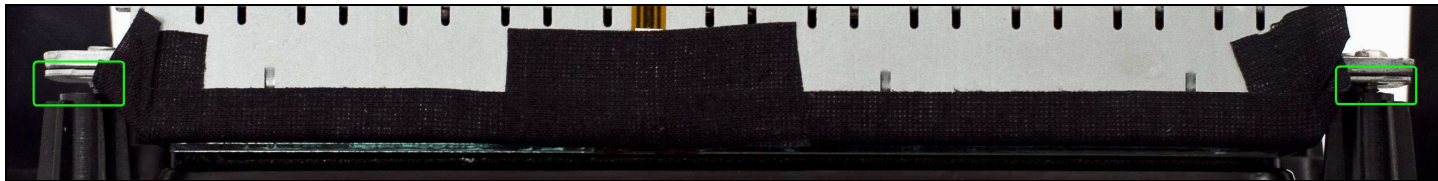
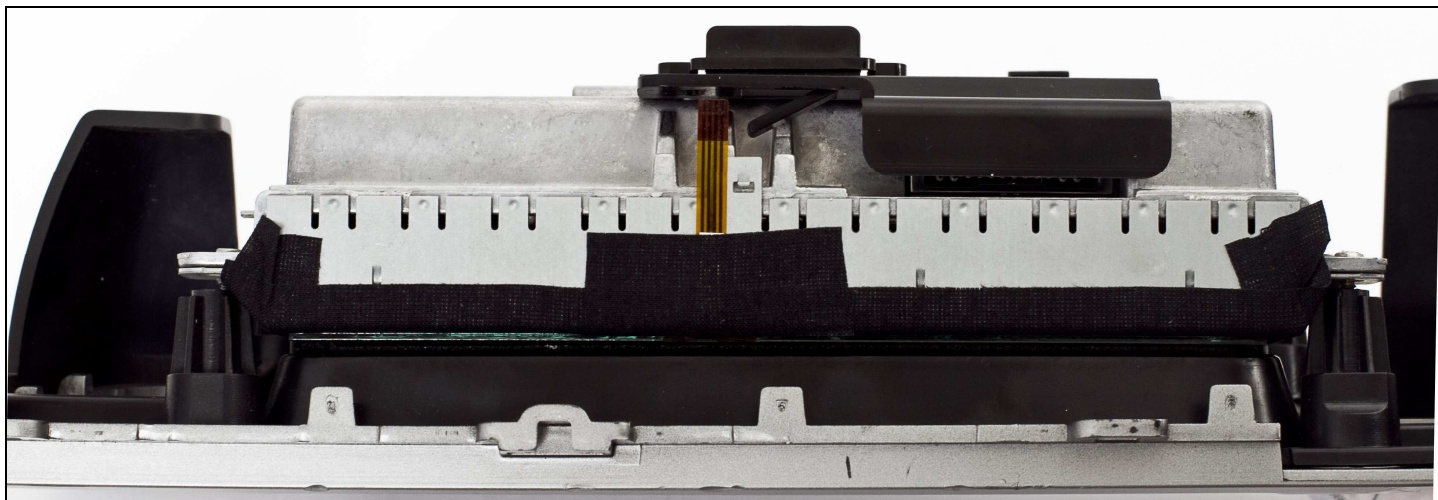

Figure 16
Figure 17
10. When mounting the display, place several washers in the gap (Fig. 16) that appeared between the display's metal frame and the fixation tabs of the plastic tab in order to avoid crushing or damaging the touch panel. When you finish mounting the display, fasten the touch panel ribbon-cable on the display case with a cloth tape (Fig. 17).